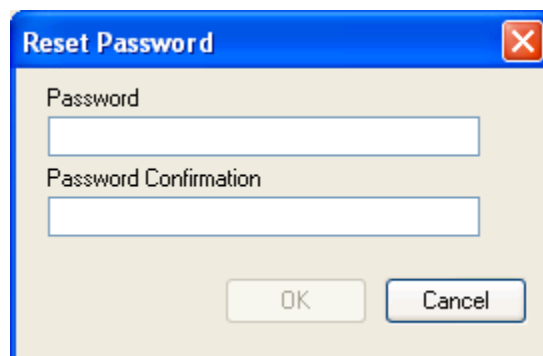

Figure 91 - Reset Password Window
1. Click on the **Reset Password** button. The **Reset Password** window (Figure 91) appears.